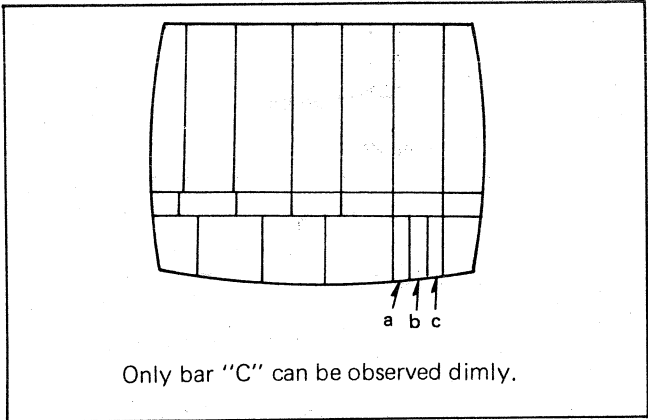

Fig. 28
7. Adjust Brightness control (R5824) so that the brightness at SMAPTE colour bar pattern (on the displayed) becomes Fig. 28.